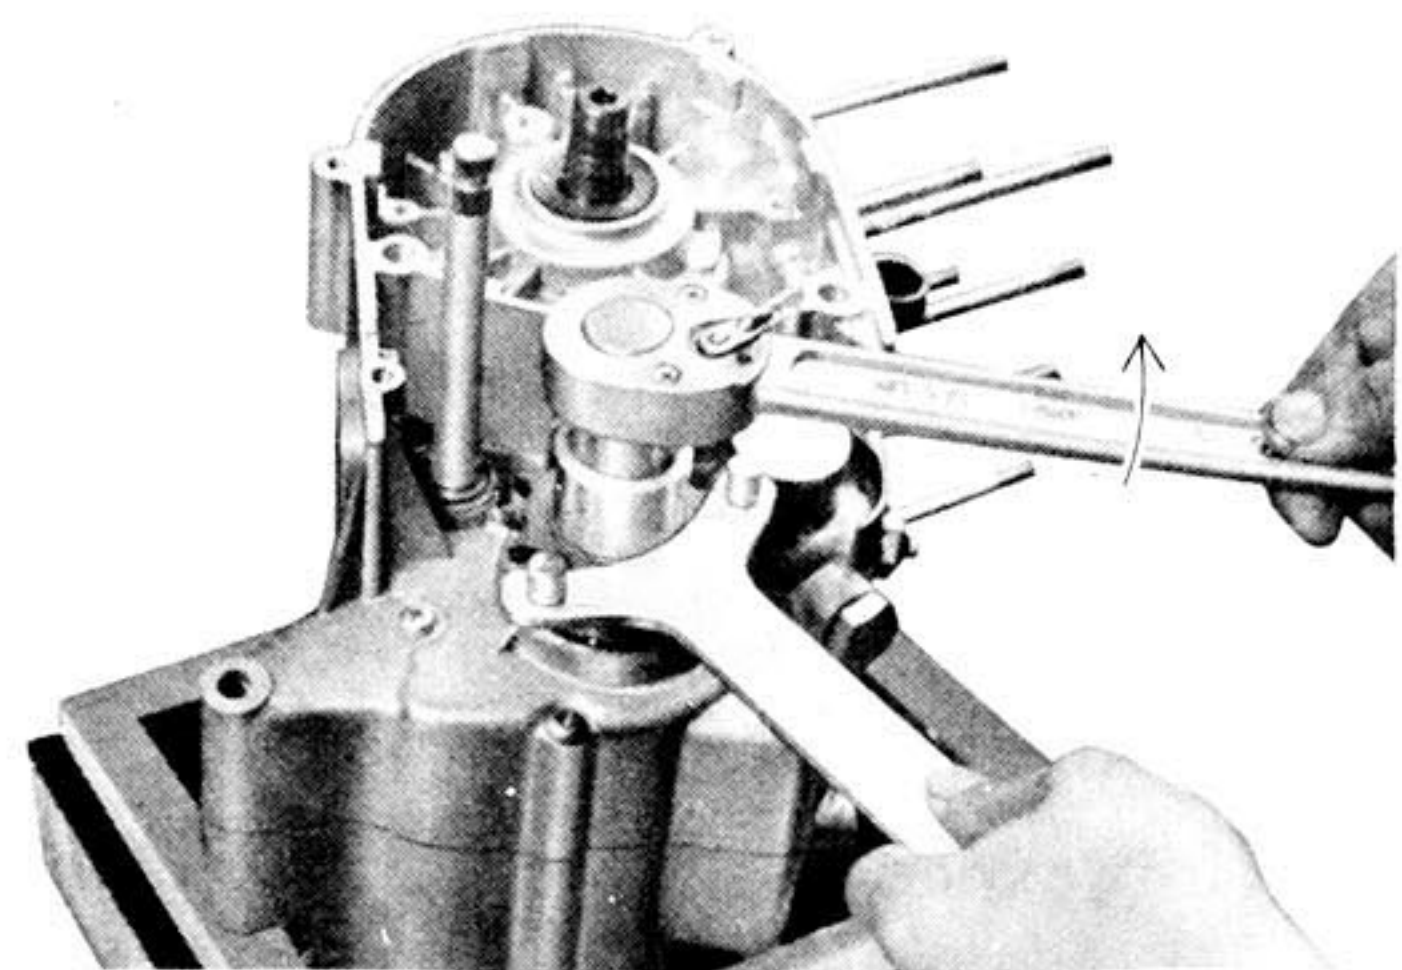

Fig. 4-13-2
b. Keep the drive sprocket from turning with the flywheel magneto holding tool, then loosen the sprocket nut. (Fig. 4-13-2)